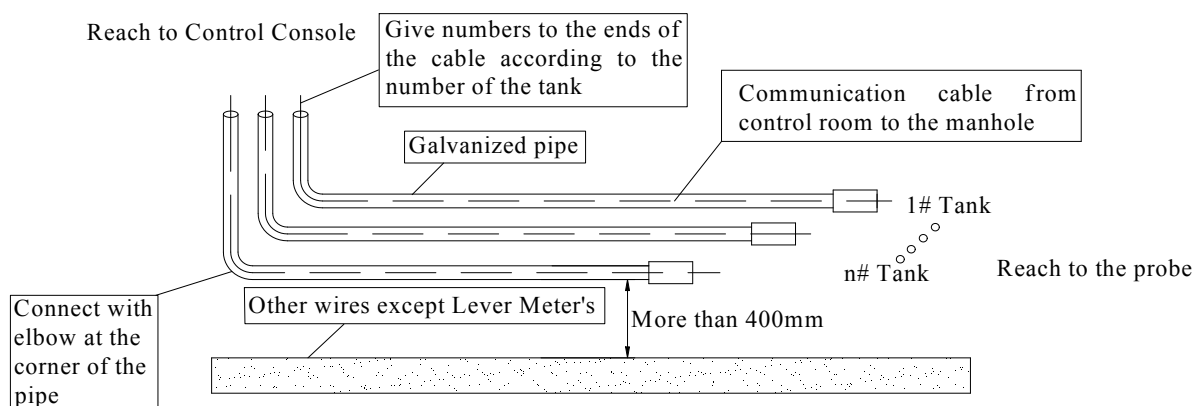

Figure 2. Wiring
2. Cable wiring (As shown in Figure2.)